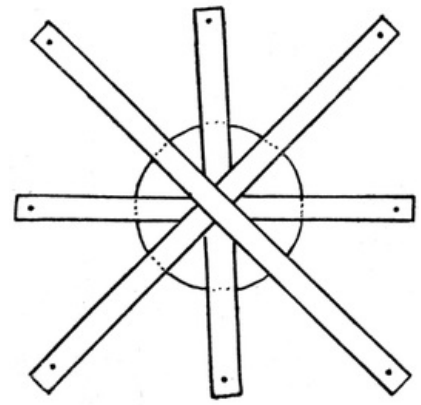

FIG. 211
**Flying Birds.** Cut four arms as for the gondolas (stripwood  $\frac{1}{4}$ "  $\times$   $\frac{1}{4}$ " will do), drill small holes at one end, glue and nail them to a reel. Cut four short arms  $3\frac{1}{2}$  inches and glue them on between the long arms as in Fig. 211.